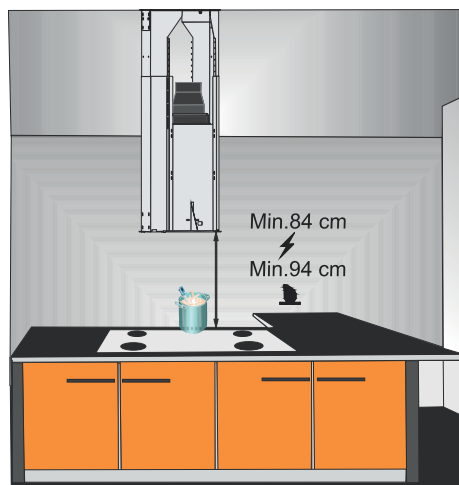

Fig. 9
- The distance between motor block and the stove must be 94 cm for gas and 94 cm for electricity models (Fig. 9).